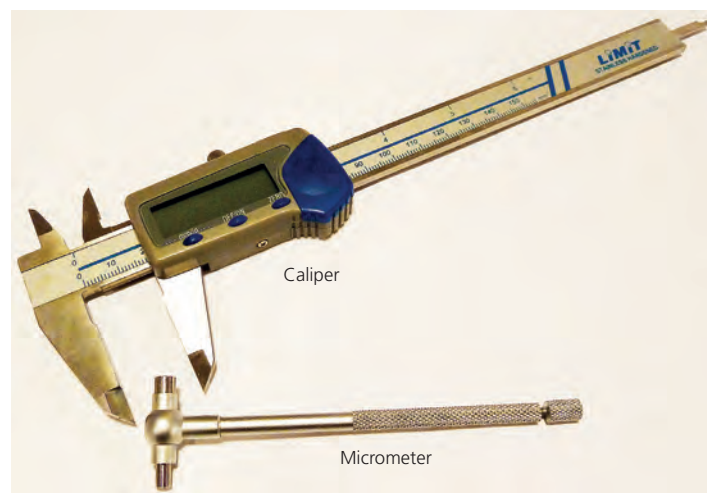

Figure 1. Example of tools for measuring of tube ID.
Figure 1 compares the CO ignition curve of a pilot-scale reactor loaded only with PPt-47, to that of a reactor loaded with a relatively small amount of PPd-47 positioned above the PPt-47. This illustrates how combining the two catalysts can achieve a 30°C lower ignition temperature.
**Figure 1.** Conversion of CO as a function of the temperature in an atmosphere containing CO, DME, methanol, H2O, O2 and N2 for a pure PPt-47 loaded reactor (solid line) and a reactor combined with PPd-47 and PPt-47, respectively.
One example of tools you can use to measure the tube ID is a micrometer together with a caliper (Fig 1). It is important to make the measurement below the tube sheet to avoid being influenced by the tube weld and tube end (Fig. 3). The tube end is slightly expanded and has a larger ID than rest of the tube.